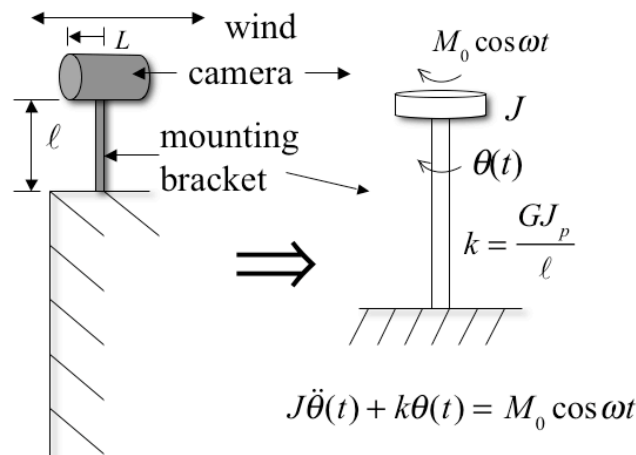

Figure P2.14 Torsional vibration of a camera
- 2.14** Consider again the camera problem of Example 2.1.3 depicted in Figure P2.14, and determine the torsional natural frequency, the maximum torsional deflection experienced by the camera due to the wind and the linear displacement corresponding to the computed torsional deflection. Model the camera in torsional vibration as suggested in the figure where $J_p = 9.817 \times 10^{-6} \text{ m}^4$ and $L = 0.2 \text{ m}$. Use the values computed in Example 2.1.3 for the mass ($m = 3 \text{ kg}$), shaft length ($\ell = 0.55 \text{ m}$), torque ($M_0 = 15 \times L \text{ Nm}$) and frequency ($\omega = 10 \text{ Hz}$). Here G is the shear modulus of aluminum and the rotational inertia of the camera is approximated by $J = mL^2$. In the example, torsion was ignored. The purpose of this problem is to determine if ignoring the torsion is a reasonable assumption or not. Please comment on this assumption based on the results of the requested calculation.